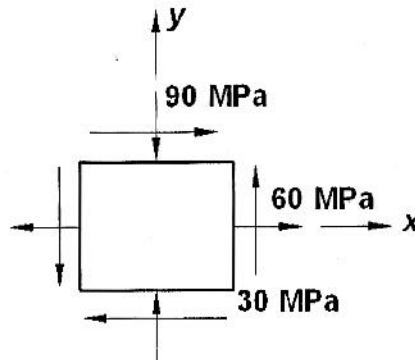

Fig. Q6a
- (a) Fig. Q6a shows a differential bi-axial stress element. Draw Mohr's circle for stresses of the element [should be drawn in graph paper and in scale]. Using Mohr's circle, (i) find the principal stresses and the corresponding principal planes, (ii) find the stress components on a plane, which is 15° counterclockwise from the x -plane. Show the principal stresses on a properly rotated element in body plane.